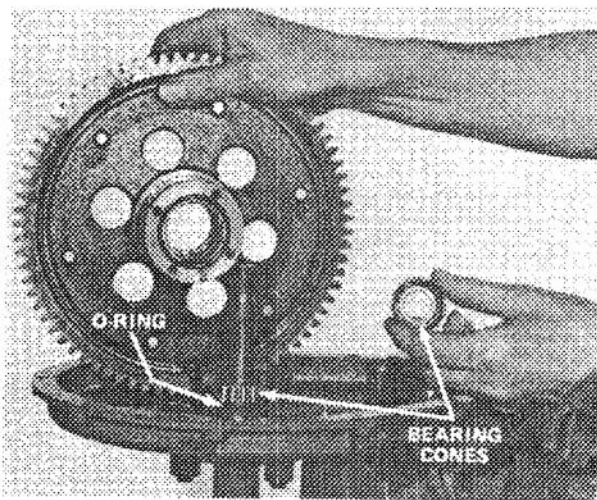

Figure 25
8. Remove inner cone and "O" ring from axle shaft (Fig. 25).